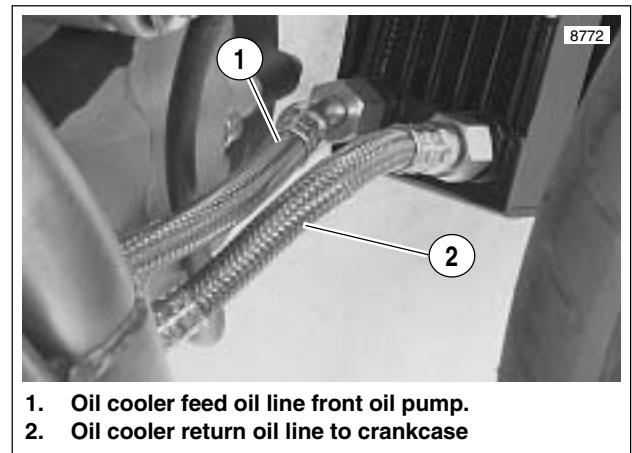

Figure 3-53. Oil Cooler Oil Lines
31. See Figure 3-53. Torque the feed oil line at the oil cooler to 15-17 ft-lbs (20.3-23 Nm).
34. See Figure 3-53. Finally torque the oil cooler return line fitting on the front of the oil cooler to 15-17 ft-lbs (20.3-23 Nm).